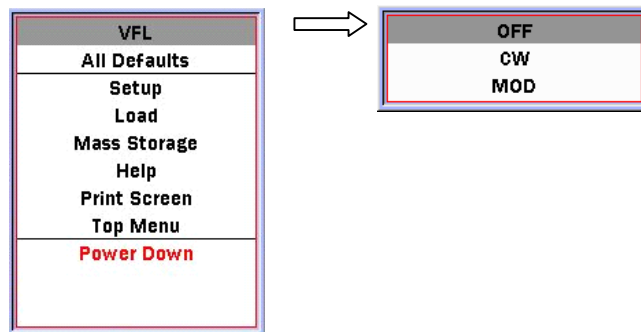

Figure 4.11-1 VFL Control Menu
2. In the menu shown in Figure 4.11-1, select **VFL** with  and , and then press .